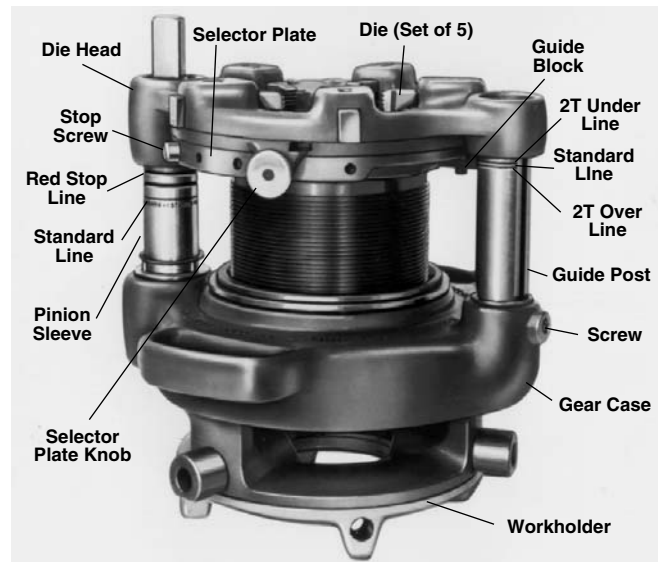

Figure 8 – No. 141 Geared Threader Showing Pinion Sleeve And Guide Post Reference Lines (No. 161 Geared Threader Similar)
Grasp workholder and turn square end of drive shaft or turn gear case by hand to respective reference lines on guide post (*Figure 8*).
(*Figure 8*)
4. Turn guide post until straight slot faces inward for straight thread, or tapered slot inward for tapered thread. *Figure 8* shows guide post set to cut tapered thread.
1. Remove stop screw (*Figure 8*) from selector plate.
2. Pull knobs (*Figure 8*) and rotate cam plate to CD mark on top of die head.
3. Remove worn die set (*Figure 8*) and insert new die set.